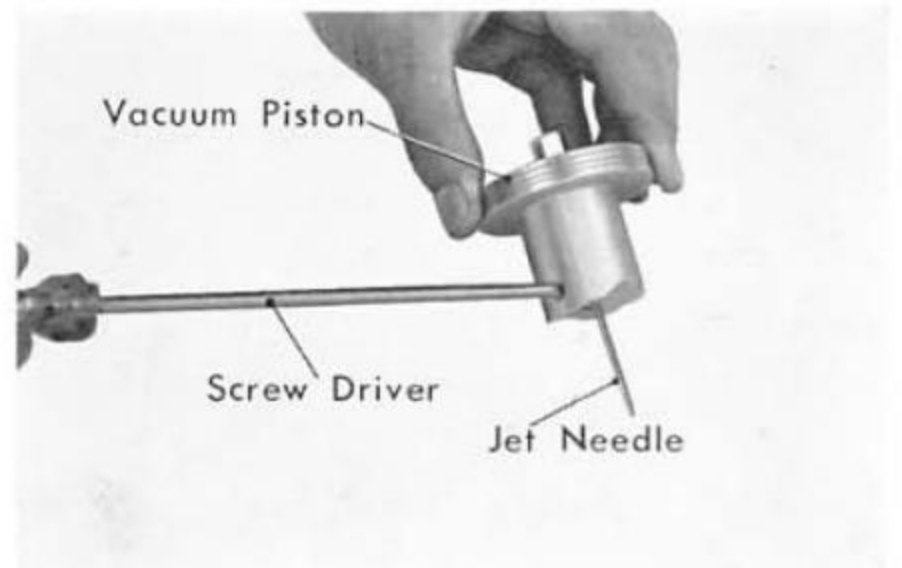

Fig. 2E-5
10. Remove the air cleaner base setting bolts, washers and disassemble the air cleaner base and base gasket from the carburetor assembly (Fig. 2E-6).